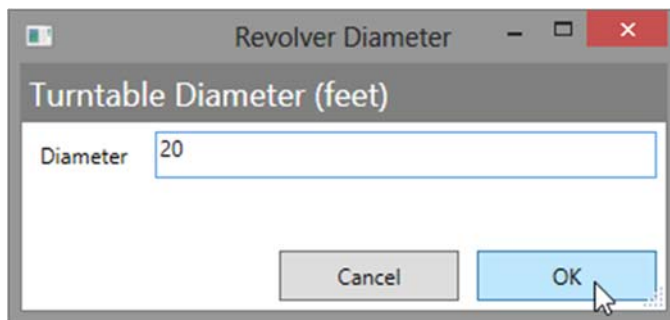

Figure 32
4. When you drop the **Revolver** into the show, the **Revolver Diameter** dialog box is displayed. Enter in a diameter of 20 (for twenty feet) and press **OK** (Figure 32).